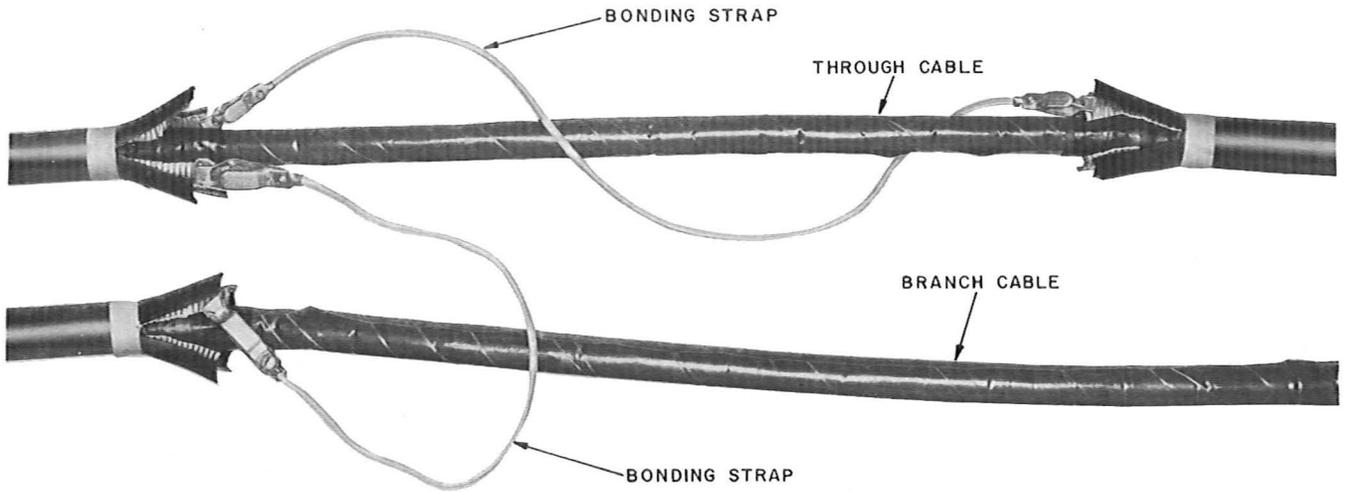

Fig. 21—Installation of Bonding Strap
5.16 Place a **temporary** bond across the sheath opening as shown in Fig. 21. This provides a temporary shield across the sheath opening for protection against lighting, etc.